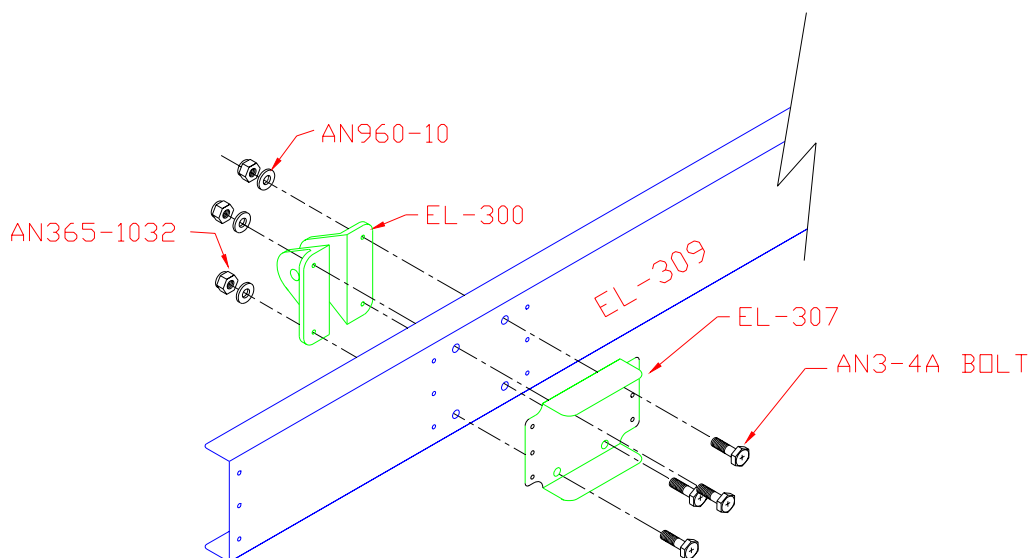

Figure 3.2.2
- 5) Attach the end Elevator Hinge Doublers (EL-307), two Elev/Rud Hinges (EL-300) with AN3-4A bolt. Figure 3.2.2.